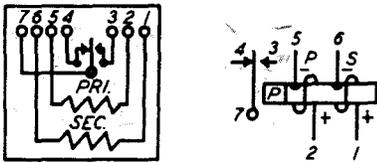

FIG. 22-WINDING AND SPRING TERMINAL ARRANGEMENT AS VIEWED FROM THE REAR (TERMINAL SIDE)-206, 227, 231, 239 AND 280 TYPE RELAYS
2.39 The contact and winding terminals are numbered consecutively from right to left facing the terminal side of the relay as shown in Fig. 22.